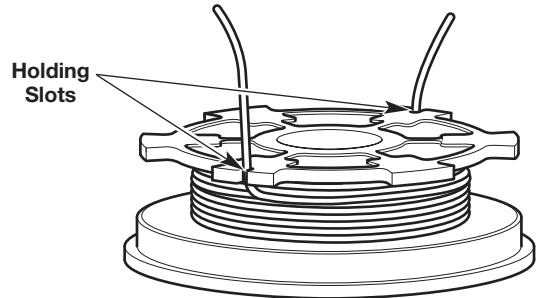

Fig. 30
4. Insert the two 6-inch sections into the two holding slots (Fig. 30).
6. Insert the two 6-inch sections into the two holding slots (Fig. 30).